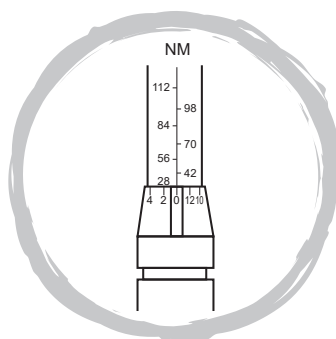

Fig. 1
- Rotate the knurled handle until one of the zero graduations on the bevel edge is lined up with the vertical mark on the shaft, and is level with the closest reading below the required setting (Fig. 1).